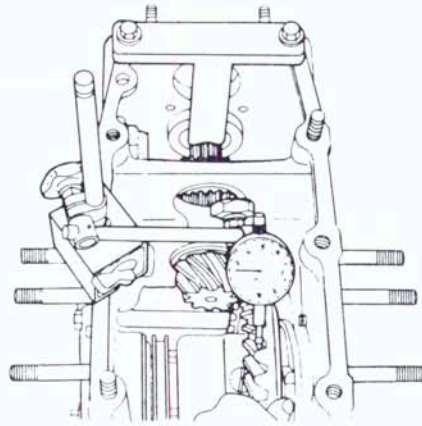

Fig. 131—Use dial indicator to check backlash between bevel ring gear and pinion gear.
95. BACKLASH ADJUSTMENT. Backlash between bevel pinion gear and bevel ring gear should be 0.20-0.25 mm (0.008-0.010 inch). To check backlash, position a dial indicator against tip of one ring gear tooth (Fig. 131). Secure pinion shaft, move ring gear by hand and